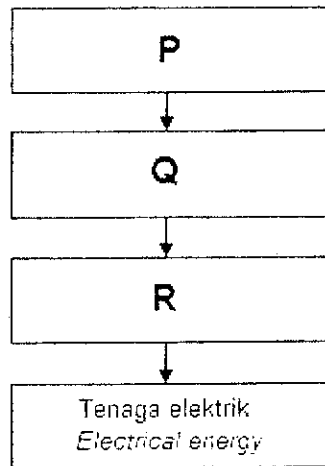

FIGURE 2
2. Figure 2 shows a flow chart of energy transformation in hydroelectric station
c) With the aid of figure 2, describe how energy transformation happened until electrical energy produced.